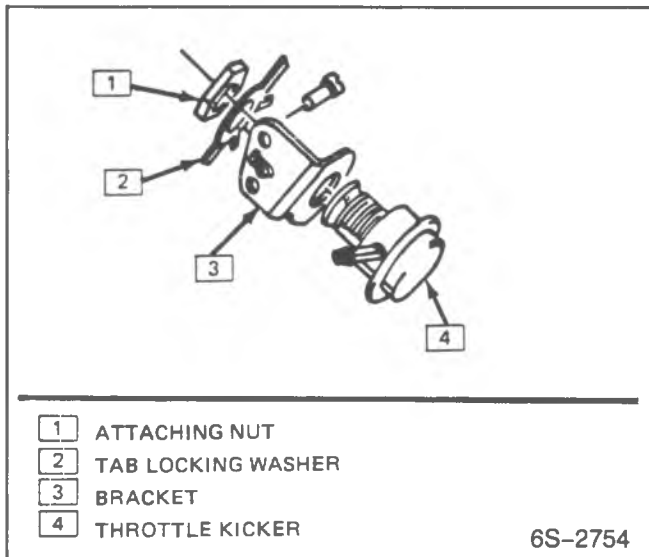

Figure 40—Throttle Kicker
**Remove or Disconnect(Figure 40)**